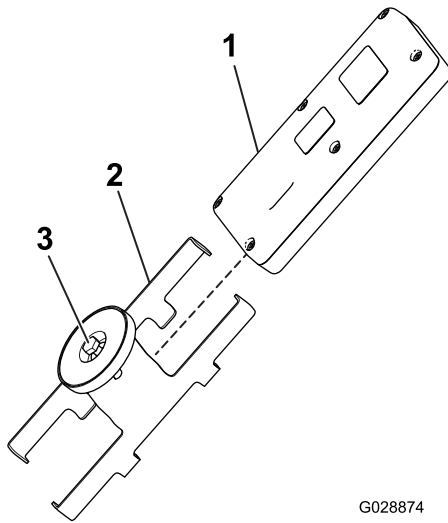

Figure 30
1. Loosen the bolt in the magnet on the magnetic remote bracket (Figure 30).
2. Slide the bracket sides apart and remove the remote (Figure 30).
8. Install the handheld remote into the magnetic remote bracket, slide the halves together to secure the remote, and tighten the bolt in the magnet (Figure 30).